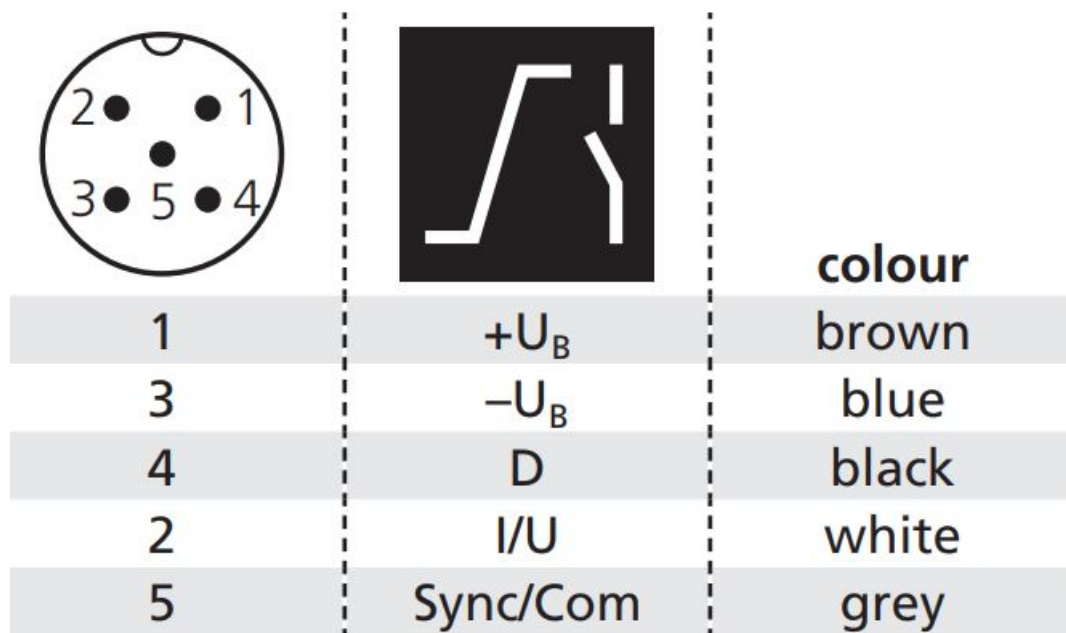

Fig. 1: Pin assignment with view onto sensor plug and colour coding of the microsonic connection cable
- Plug in the connector cable to the M 12 connector, see Fig. 1.